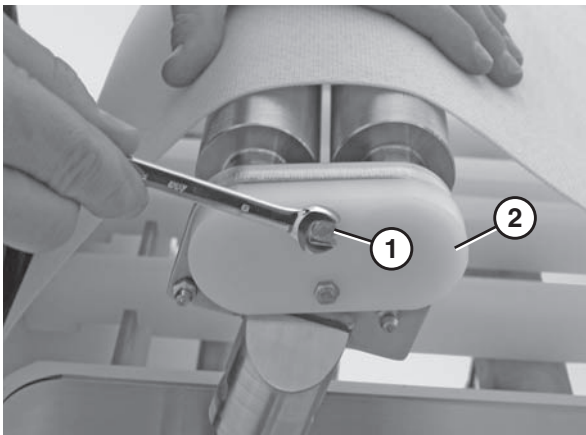

Figure 81
2. Remove the transfer bearing screws (**Figure 81, item 1**) and the cover (**Figure 81, item 2**) using an 8 mm wrench.